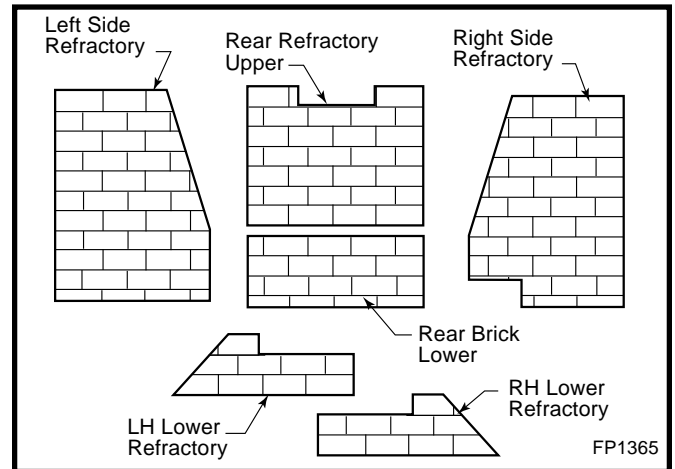

Fig. 39 DVT44 ceramic refractory panels.
1. Using a Phillips or Robertson screwdriver, unfasten the two (2) screws holding the fettle to the burner assembly. (Fig. 39) With a wrench, remove the front burner tube by unfastening the two (2) nuts that secure the burner tube to the front of the burner assembly.